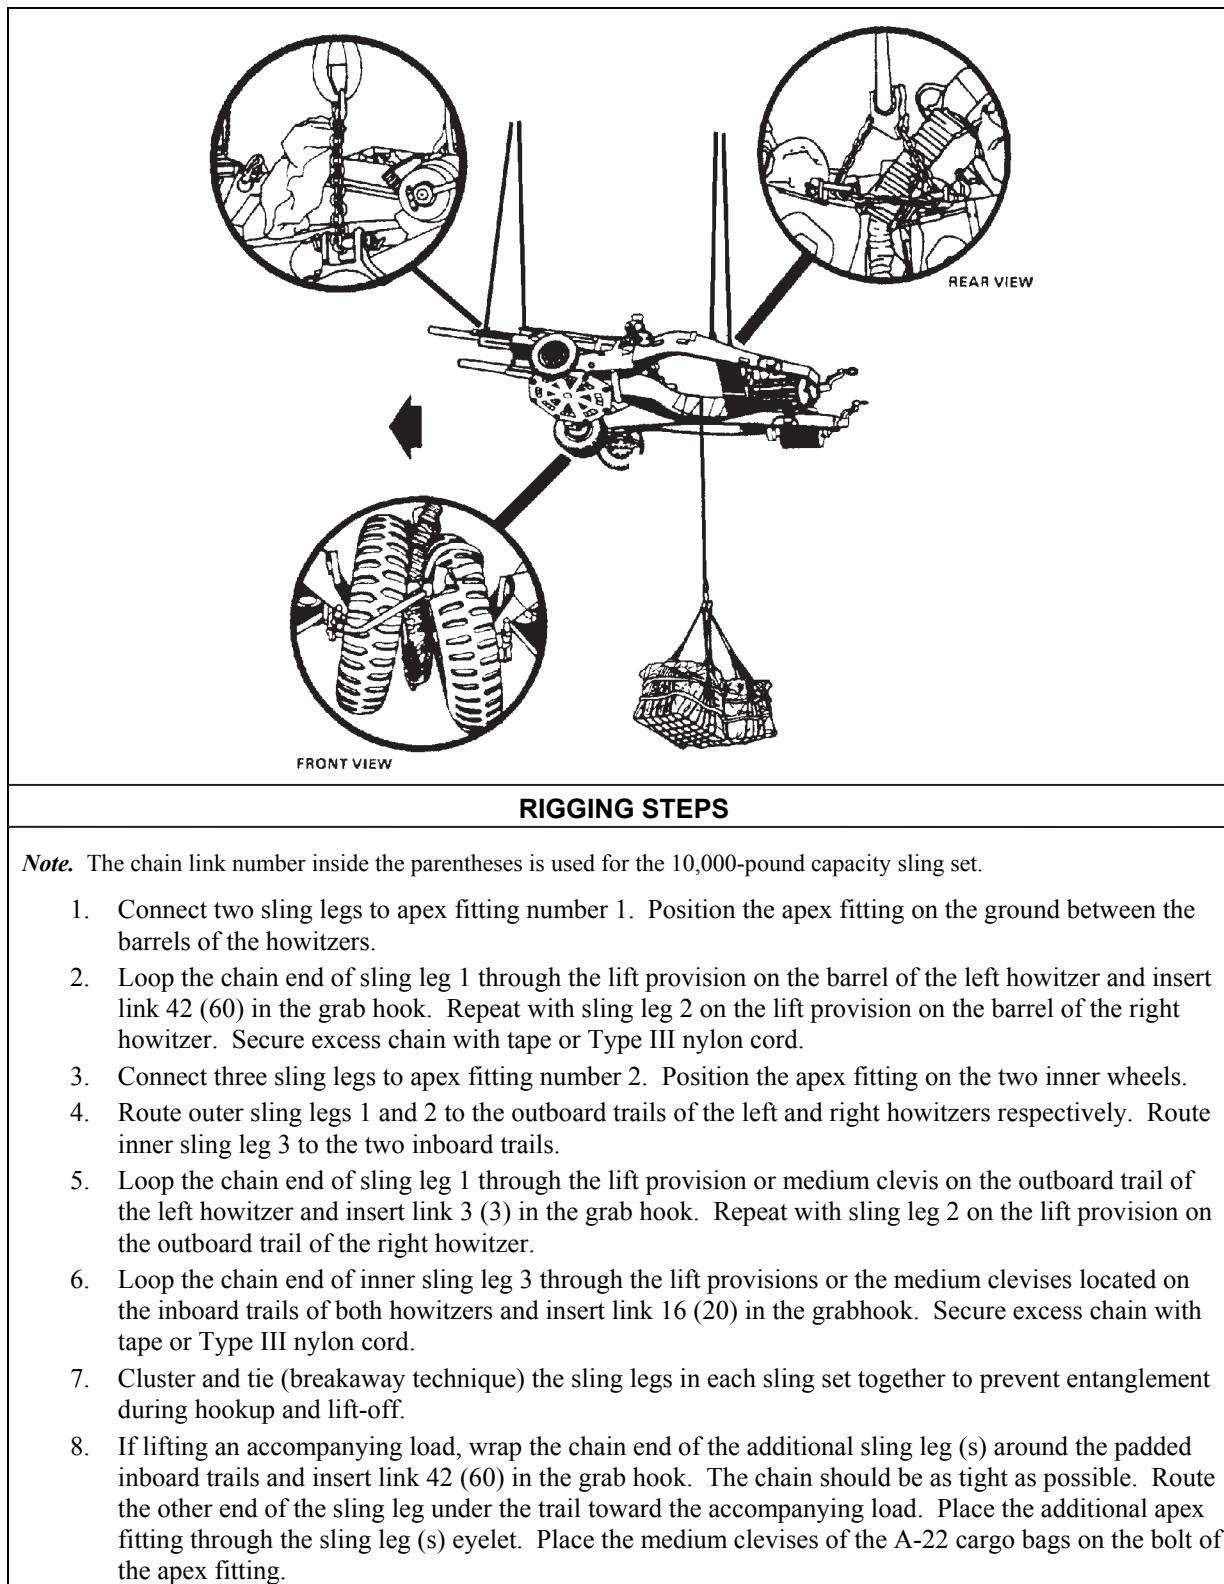

Figure 6-4. Two M102 Howitzers, 105-mm, with or without One, Two, or Three A-22 Cargo Bags
- **Rigging.** Rig the load according to the steps in Figure 6-4.